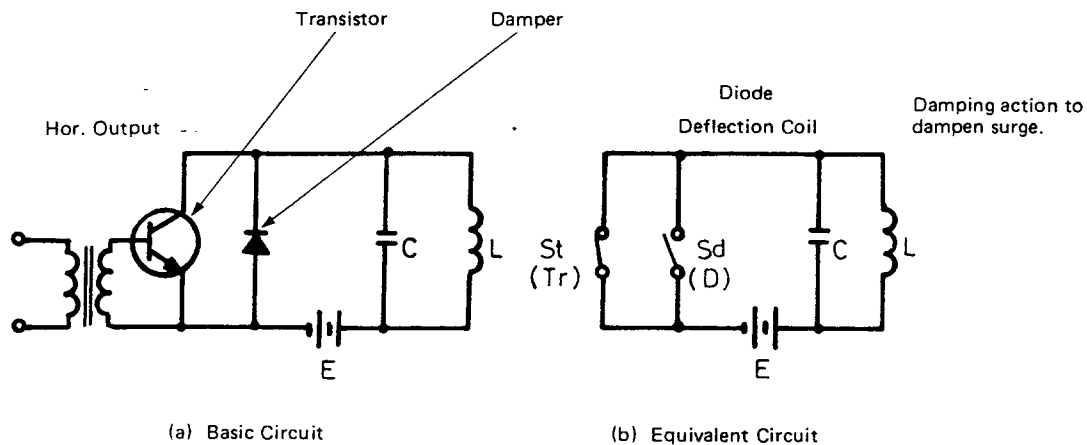

Fig. 18 Basic Horizontal Output Circuit and its Equivalent
1. Consider the duration from t_1 to t_2 in Fig. 19 and refer to the equivalent circuit (b) in Fig. 18, above. Pulse voltage is applied to the base of transistor: When this voltage is on, the transistor conducts is saturated. This condition is equivalent to when switch "St" is